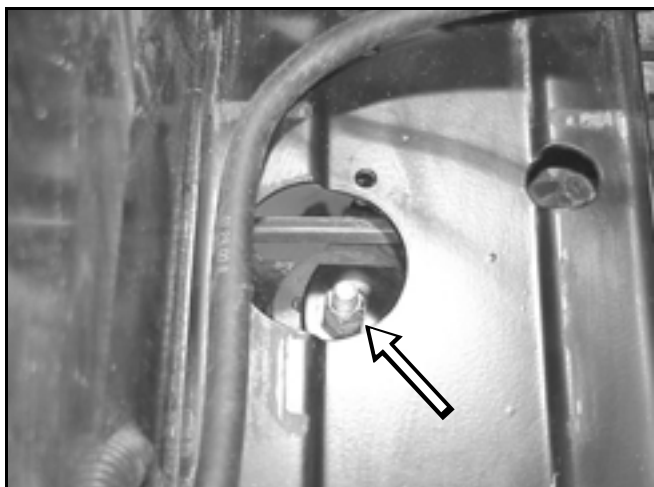

Figure 21
4. Tighten the nut until the eccentric turns with a small amount of friction (Figure 21).